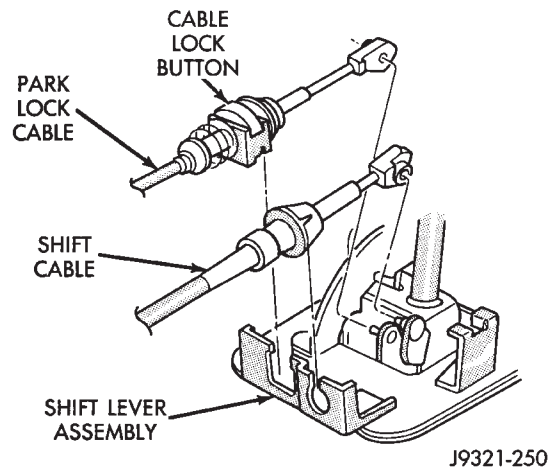

Fig. 289 Park Lock Cable Attachment
- (1) Shift transmission into PARK.
- (2) Remove shift lever bezel and console screws. Raise bezel and console for access to cable.
- (3) Pull cable lock button up to release cable (Fig. 289).
- (4) Turn ignition switch to LOCK position.